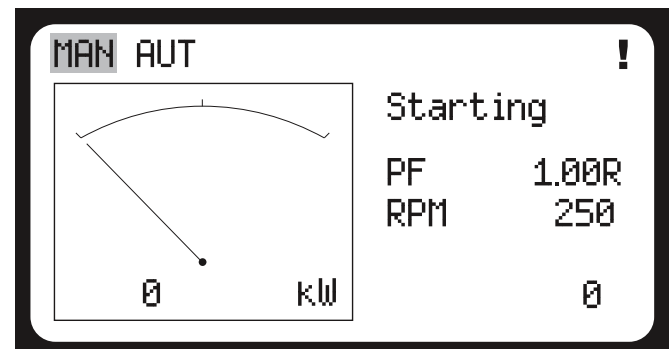

Figure 3-2. Starting Screen
5. See Figure 3-2. The starting screen will display. The engine will crank and start running.